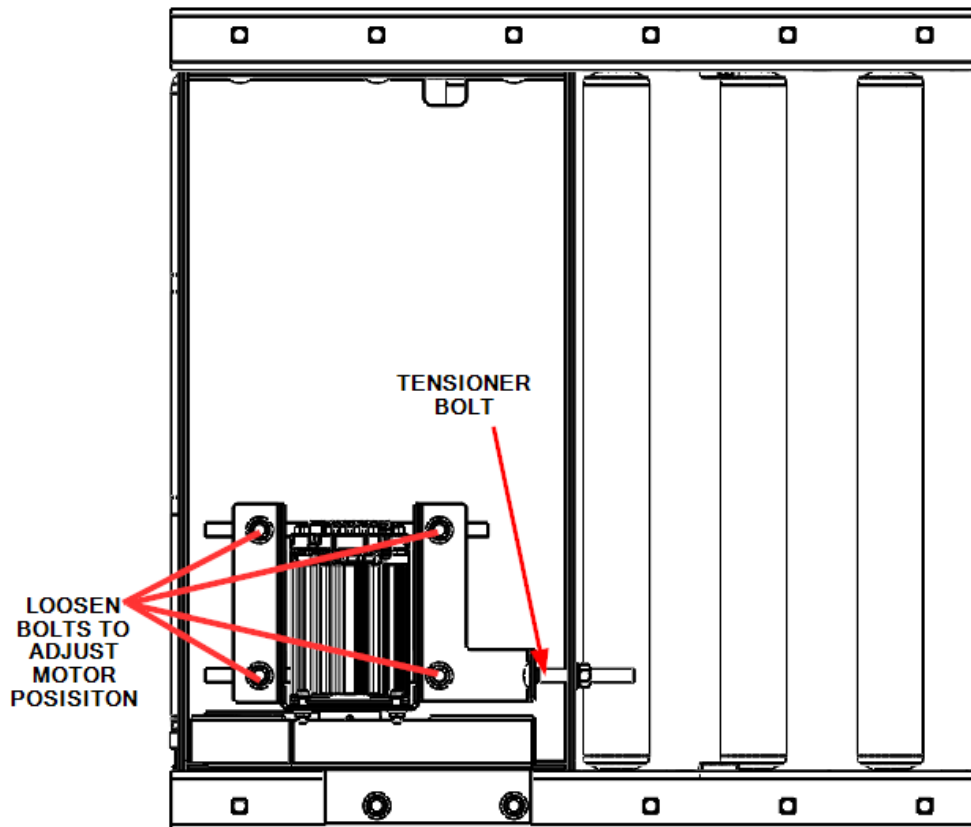

Figure 48: BRBDC Drive Belt Tensioning
4. Relax the drive belt tension by loosening (4) bolts and the tensioner bolt as shown in Figure 48.
23. Tension the timing belt using the tensioner bolt as shown in Figure 48 and torquing the mounting bolts to 31ft-lbs. Band should be tensioned to 40-50N (9-11.25lbs).
2. Relax the drive belt tension by loosening (4) bolts and the tensioner bolt as shown in Figure 48.
8. Tension the timing belt by tightening the tensioner bolt as shown in Figure 48 and torquing the mounting bolts to 31ft-lbs. The belt should be tensioned to 40-50N (9-11.25lbs).
8. Tension the timing belt by tightening the tensioner bolt as shown in Figure 48 and torquing the mounting bolts to 31ft-lbs. Band should be tensioned to 40-50N (9-11.25lbs).
11. Tension the timing belt using the tensioner bolt as shown in Figure 48 and torquing the mounting bolts to 31ft-lbs. Band should be tensioned to 40-50N (9-11.25lbs).
3. Relax the drive belt tension by loosening (4) bolts and the tensioner bolt as shown in Figure 48.
15. Tension the timing belt using the tensioner bolt as shown in Figure 48 and torquing the mounting bolts to 31ft-lbs. Band should be tensioned to 40-50N (9-11.25lbs).